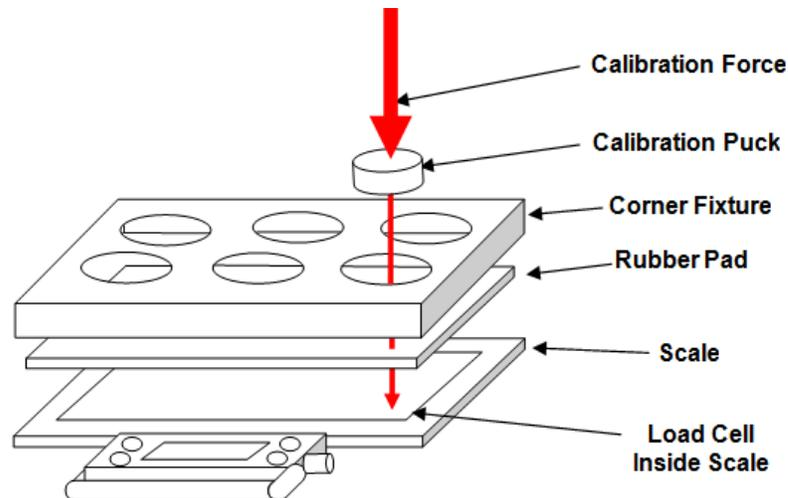

FIGURE 3
1. Position the rubber pad and corner fixture on the scale as depicted in Figure 3.